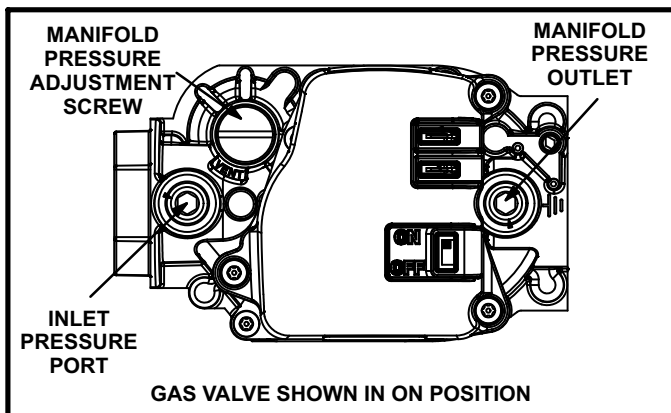

FIGURE 60
Gas Valve Operation (Figure 60)
- 6 - Move gas valve switch to **OFF**. See figure 60.
- 8 - Move gas valve switch to **ON**. See figure 60.
When testing supply gas pressure, use the 1/8" N.P.T. plugged tap or pressure post located on the gas valve to facilitate test gauge connection. See figure 60. Check gas line pressure with unit firing at maximum rate. Low pressure may result in erratic operation or underfire. High pressure can result in permanent damage to gas valve or overfire.